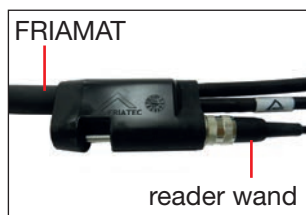

Figure 1
- Unscrew the reader wand from the connector of fusion cable by turning counter-clockwise (Figure 1).